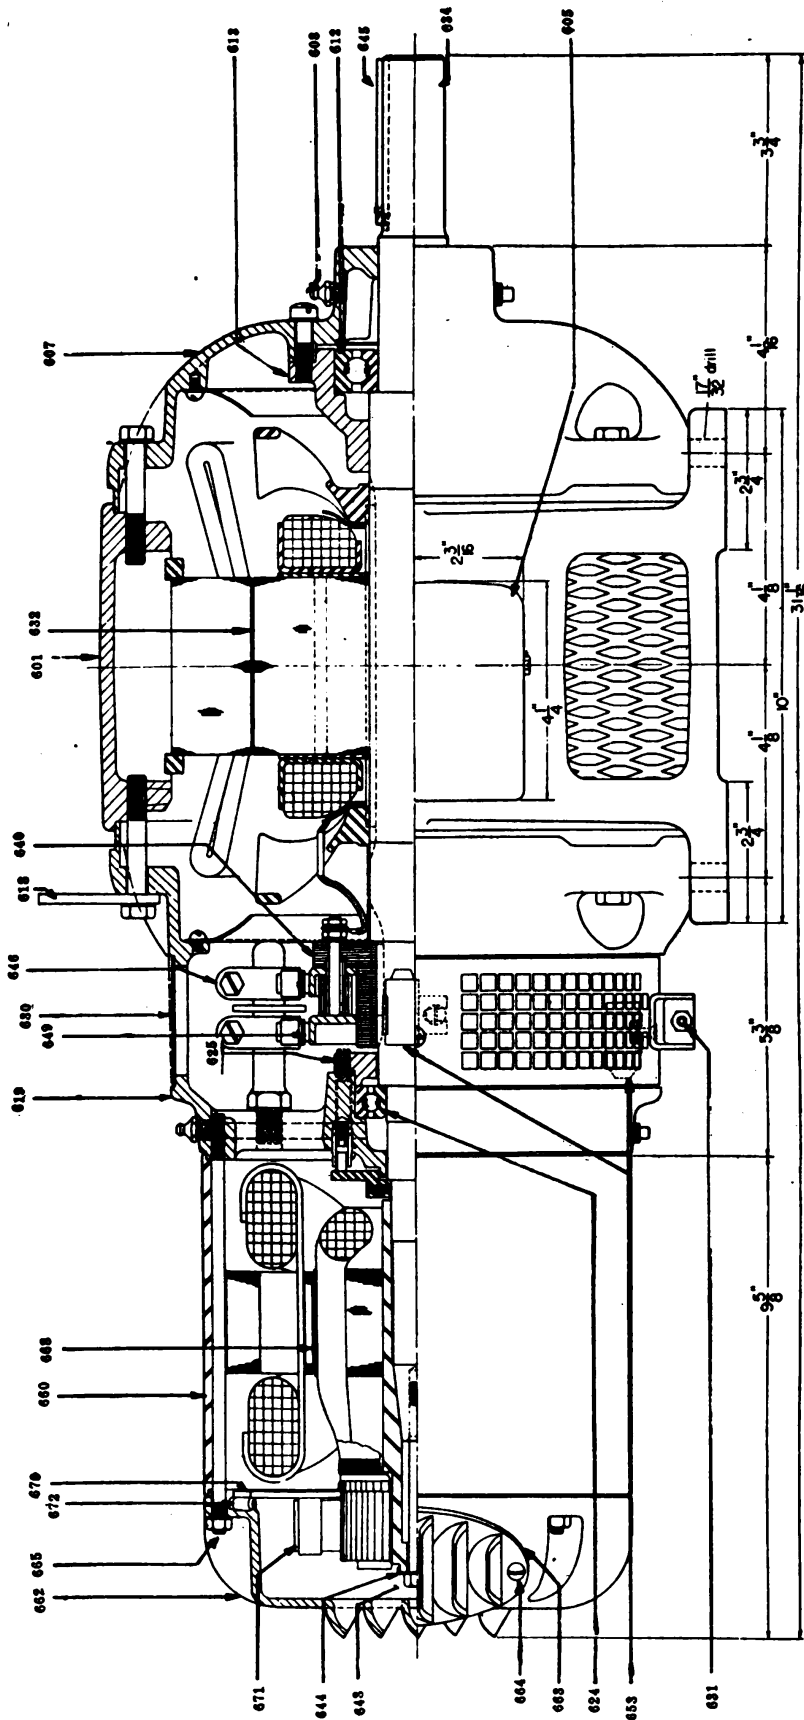

Figure 29.—Cross Section of Generator and Exciter
48. **General Description.**— *a.* *Power Generator* (figure 29)